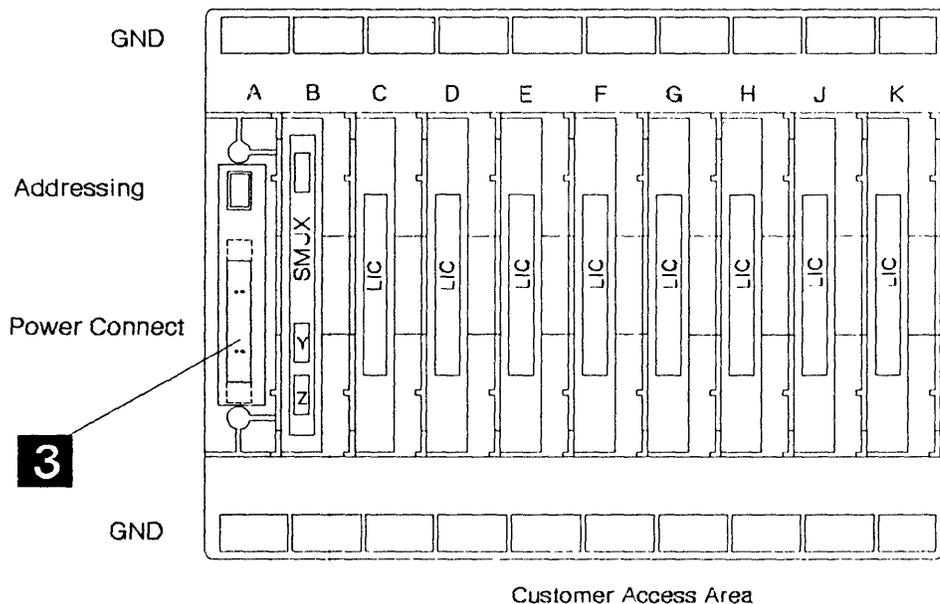
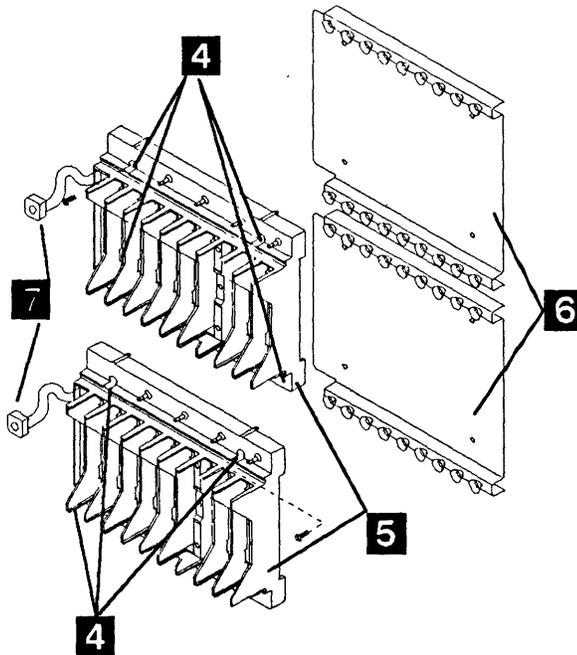

Figure 4-115. LIC Locations
Figure 4-116. LIC Board Assembly
Refer to Figure 4-115 and do the following:
Refer to Figure 4-115 and Figure 4-116 and do the following:
1. Refer to Figure 4-115 on page 4-84 and set the same board address as you noted during the board removal.
2. Refer to Figure 4-116 on page 4-84 then mount the new LIC board **5** and the ground bracket **6** in place and secure them with the 4 screws **4**.
3. Refer to Figure 4-115 on page 4-84, then reconnect the flat power cables **3**.
4. Refer to Figure 4-116 on page 4-84, then mount the ground strap on the LIC board to the frame with the screw and a washer **7**.